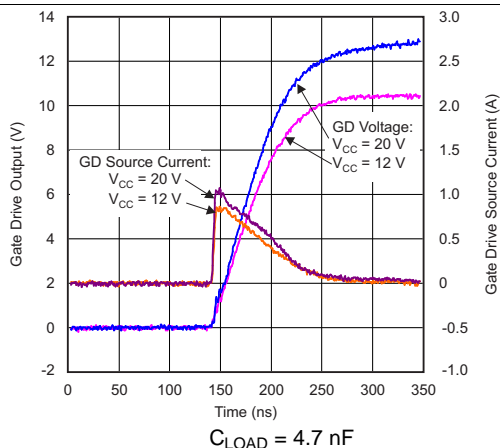
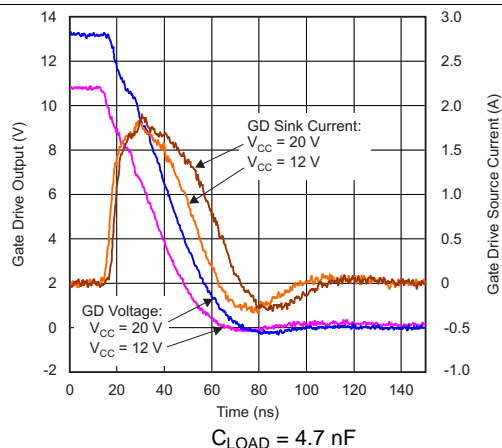
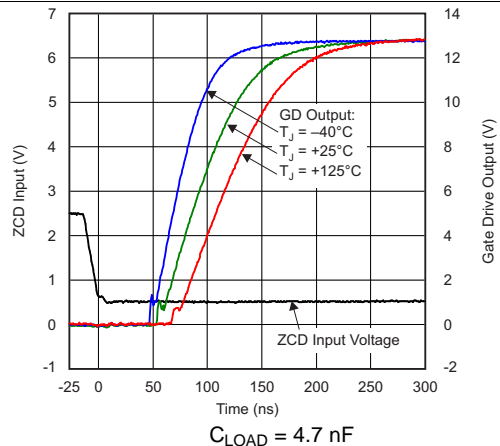
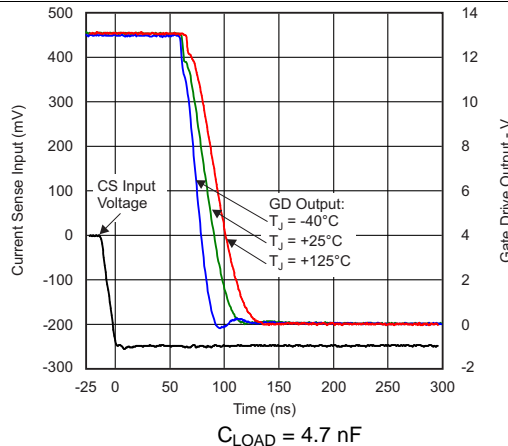

Figure 13. Gate Drive Rising vs Time
Figure 14. Gate Drive Falling vs Time
Figure 15. Gate Drive Rising and Delay From ZCD Input vs Time
Figure 16. Gate Drive Falling and Delay From CS Input vs Time
(2) Refer to Figure 13, Figure 14, Figure 15, and Figure 16 of the Typical Characteristics for typical gate drive waveforms.
(3) ZCD blanking times are ensured by design.